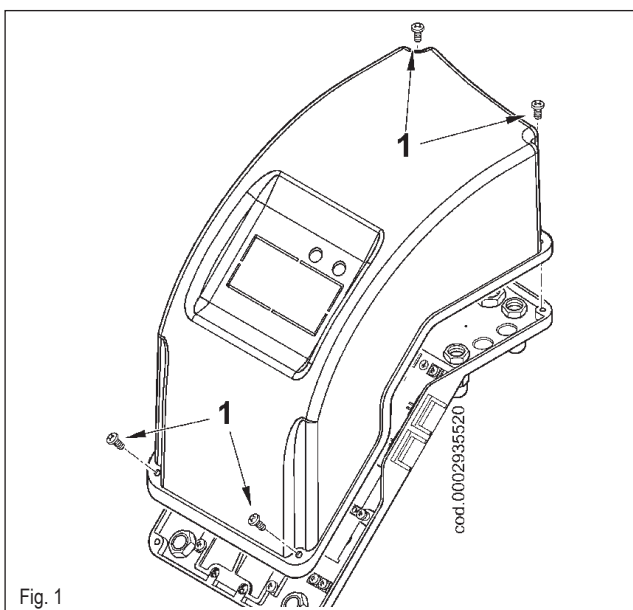

Fig. 1
- Remove the lid by unscrewing the 4 screws (1) in figure 1. In this way the burner's electrical panel can be accessed.
- Slacken the screws 1 and remove the lid 2 (figure 1).
- 1) Following the instructions in the section entitled "Maintenance", remove the mixer unit and remove the screw (1) connecting the forward movement rod (2) of the unit with the gas delivery pipe (3) passing through the slot (4) in the elbow union (figure 1).
- 2) Turn the elbow union 180° so that the hole in the gas delivery pipe is aligned with the slot (4a) in the diametrically opposed position on the union. Connect up the forward movement rod (2) and the gas delivery pipe (3) with the screw (1) shown in figure 1.